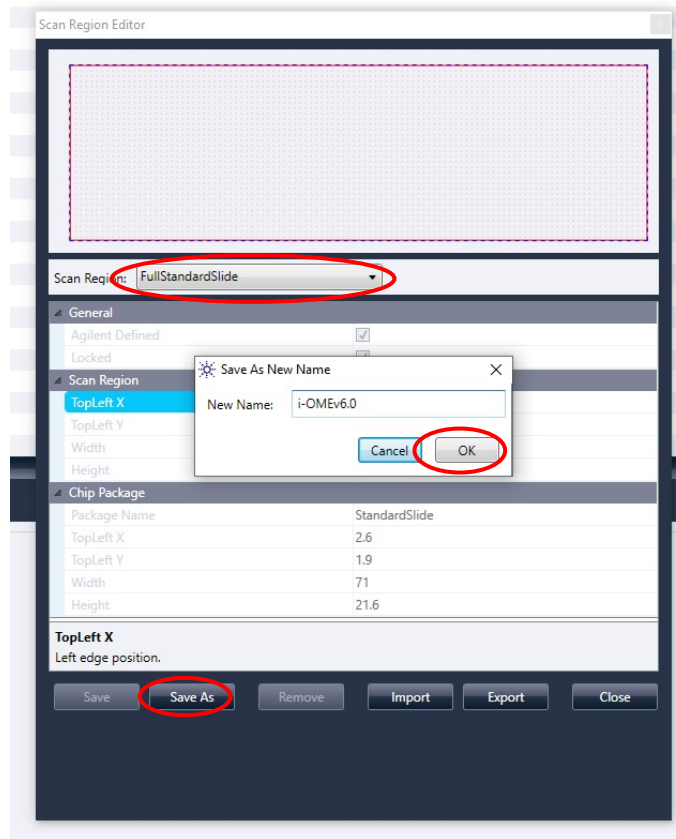

Figure 2: Create a new scan region.
- ii. Click 'Save As' and create a new name. Next click 'OK' (Figure 2).